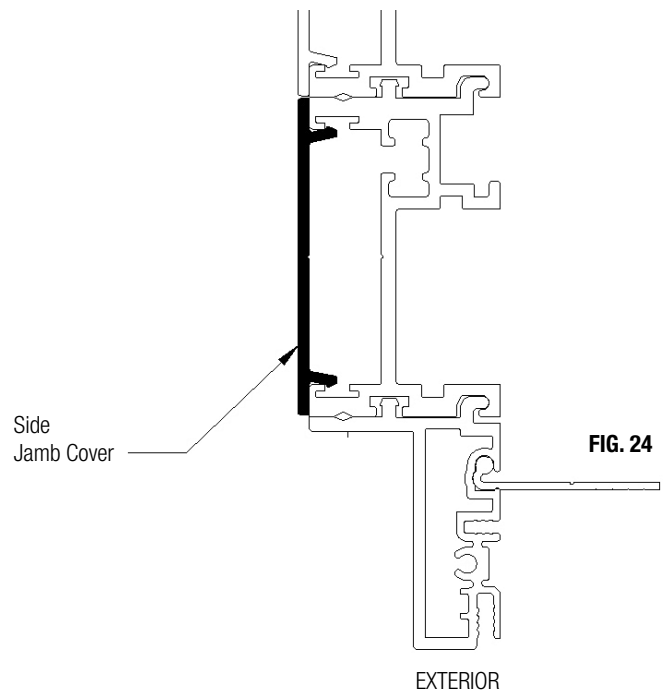

FIG. 24
- D) Make sure the track cap is tight against the side jamb and gently insert it in place. (Fig. 24)